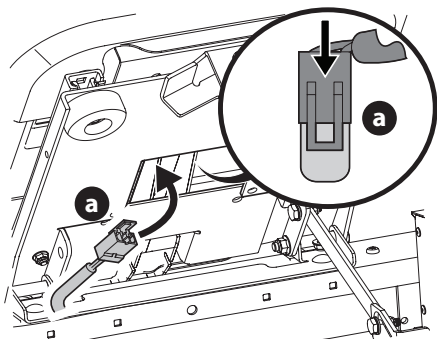

Fig. 10
4. Insert the wiring harness (a) into the bottom of the seat (Fig. 10).
NOTE: When the wiring harness (a) is connected, be sure to push the excess wire from the wire harness (a) into the seat box hole before continuing (Fig. 10).